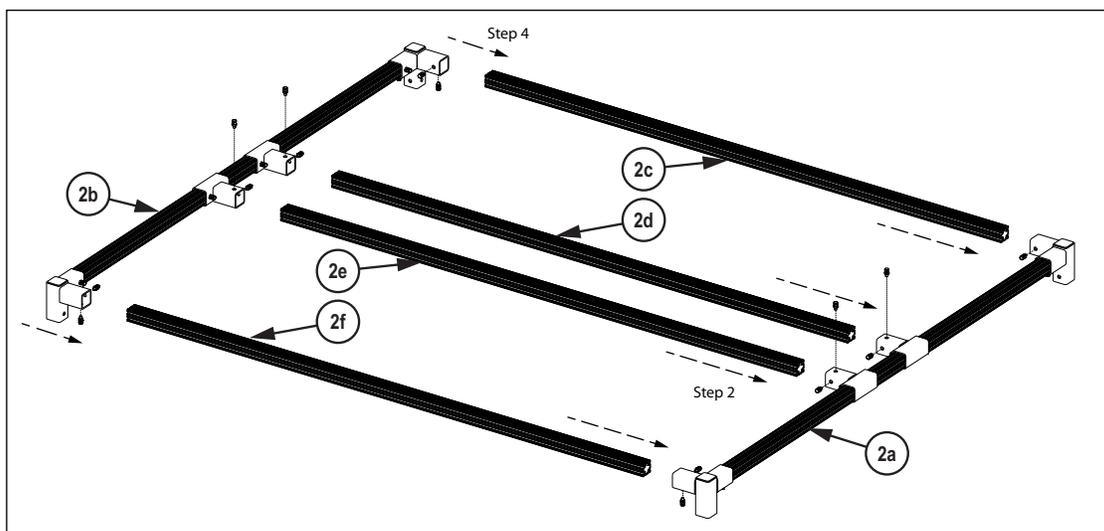

Figure 3-11. Frame Top Installation
2. Insert short bars 2c, 2d, 2e and 2f into connectors on side 2a as in Figure 3-11.
4. Insert short bars 2c, 2d, 2e and 2f into connectors on side 2b as in Figure 3-11.